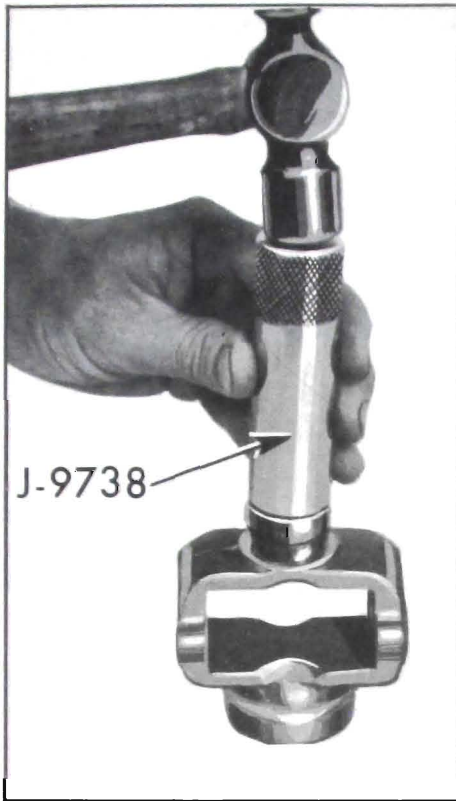

Figure 6-70—Installing Ball Seat Seal
8. Apply Permatex on the outer diameter of the seal to insure adequate sealing and install seal with its lip towards the seat using Tool J-9738. Seat seal until flush. See Figure 6-70.